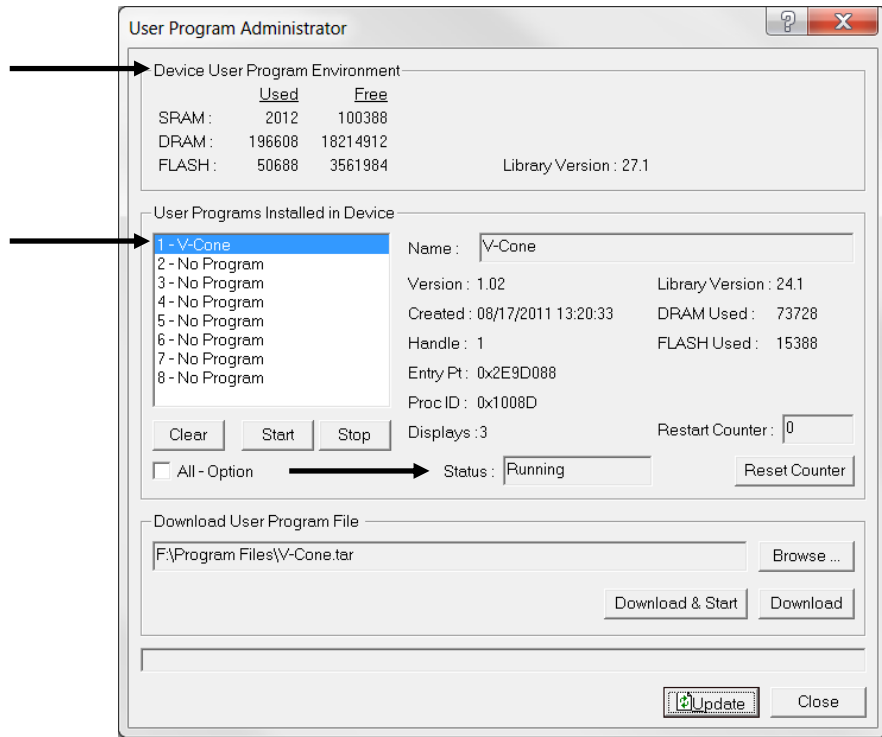

Figure 2-8. User Program Administrator
- 14.** Click **OK**. The User Program Administrator screen displays (see *Figure 2-8*). Note that: